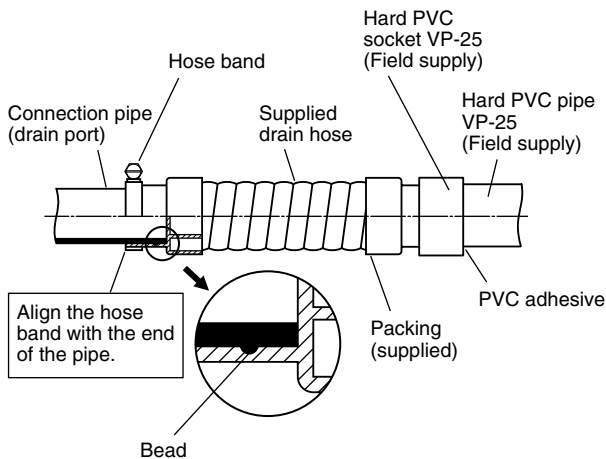

Fig. 3-6
- Prepare a standard hard PVC pipe (O.D. 32 mm) for the drain and use the supplied drain hose and hose band to prevent water leaks. The PVC pipe must be purchased separately. The unit's transparent drain port allows you to check drainage. (Fig. 3-6)
Insert the drain pipe until it contacts the socket as shown in Fig. 3-6, then secure it tightly with the hose band.
- Align the hose bands with the end of the hose. Tighten the hose band firmly. Make sure that the bead is not covered by the hose band. (Fig. 3-6)
Tighten the hose clamps so their locking nuts face upward. (Fig. 3-6)